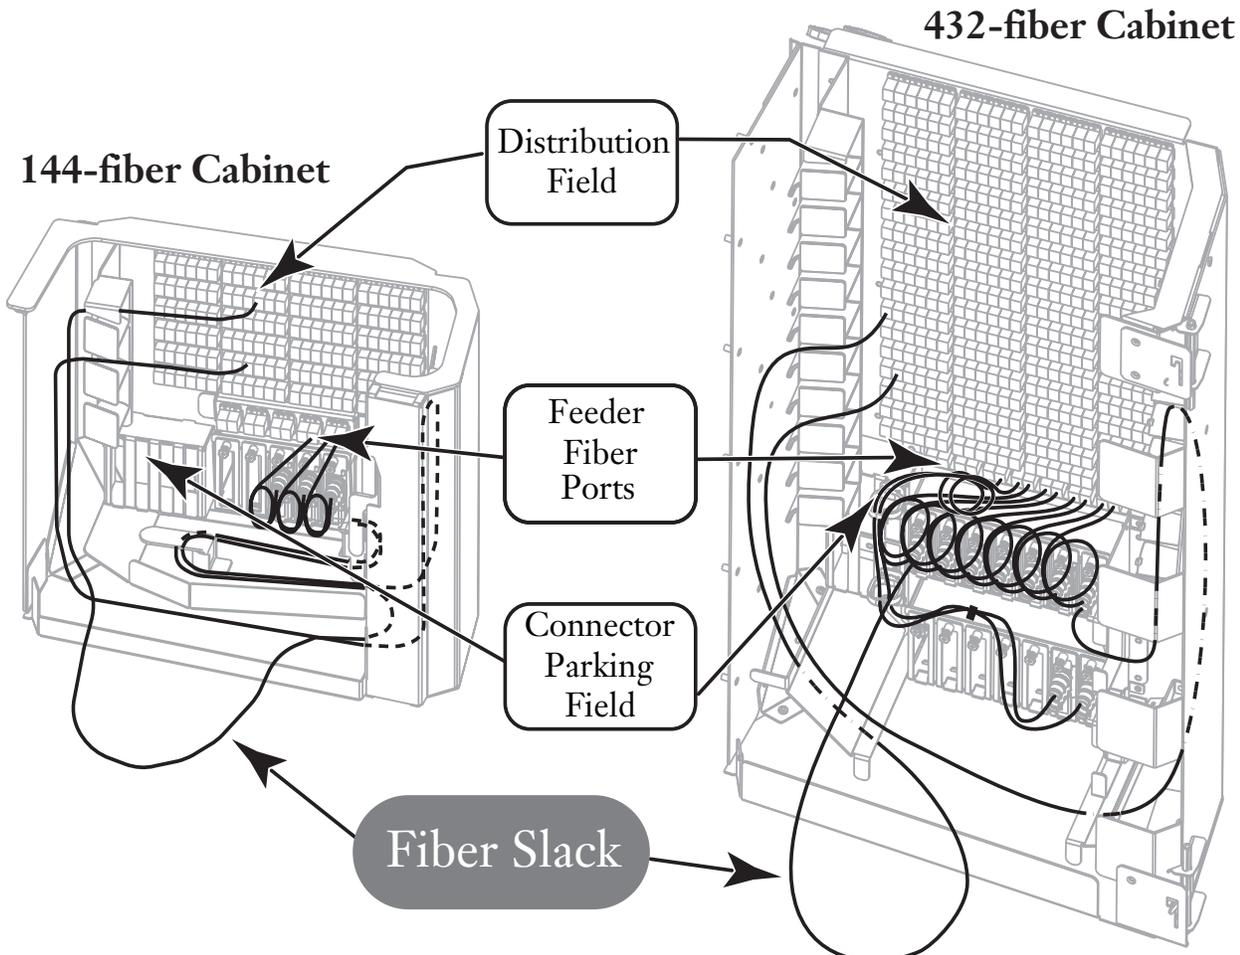

Figure 14 — Route and Mate Connectorized Splitter Input Fiber
Step 2 Locate the next available adapter port in the feeder field above the splitter module field (Figure 14).
Step 1 Route the connectorized splitter input fiber to the appropriate feeder port (Figure 14).
Step 1 When routing the connectorized splitter input fiber from the upper row of modules, route to the appropriate feeder port without uncoiling the fiber (Figure 14).